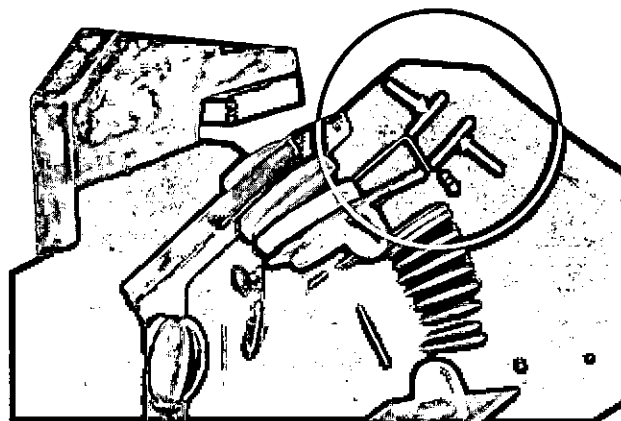

Figure 3
1. With all power removed, check that the electrical interlock (49) has the proper follow-up. With new electrical interlock contacts, the moving contacts (52) should provide at least 1/16" follow-up on each stationary contact when the contact arm reaches its limit of travel; either completely closed or completely opened (Fig. 3).